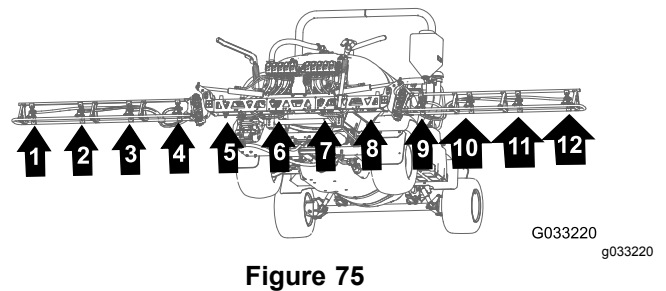

Figure 75
1. Route the hoses for sprayer nozzles 1, 2, 3, and 4 through the R-clamp at the left outboard end of the center-boom section (Figure 75 and Figure 76).
2. Route the hoses for sprayer nozzles 7, 8, 9, and 10 through the R-clamp at the right outboard end of the center-boom section (Figure 75 and Figure 76).
3. Route the supply hoses 279 cm (110 inches) and barbed-hose shanks (3/4 inch) along the boom section to sprayer nozzles 1 and 10 as shown in (Figure 75 and Figure 76).
boom section as shown in Figure 75 and Figure 76.
5. Route the supply hoses 188 cm (74 inches) and barbed-hose shanks (3/4 inch) along the boom section to sprayer nozzles 3 and 8 as shown in Figure 75 and Figure 76.
6. Route the supply hoses 188 cm (74 inches) and barbed-hose shanks (3/4 inch) along the boom section to sprayer nozzles 4 and 7 as shown in Figure 75 and Figure 76.